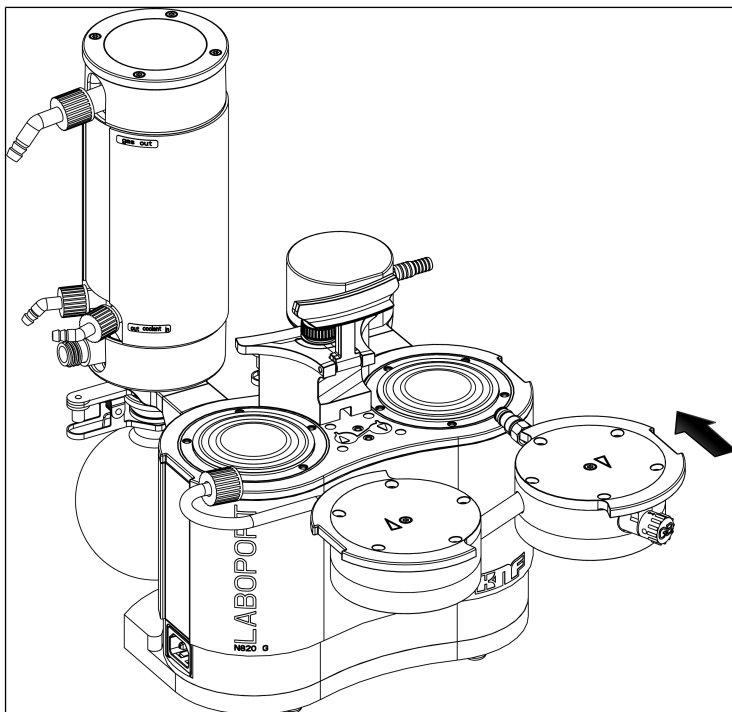

Fig.15: Fit pump head
1. Move the diaphragms (7) to the center position.
2. Press down on the edge of both diaphragms (7) all the way around.
3. Place the head cover (3) on the intermediate plate (6) in line with the locating pin (5).
4. Place the pressure plate (2) on the head cover (3) according to the pencil line.
6. Place the pump heads (consisting of head cover (3), intermediate plate (6) with valve plates/seals (4) and pressure plate (2)) together with the connection tube on the pump housing according to the pencil line (see Fig. 15).